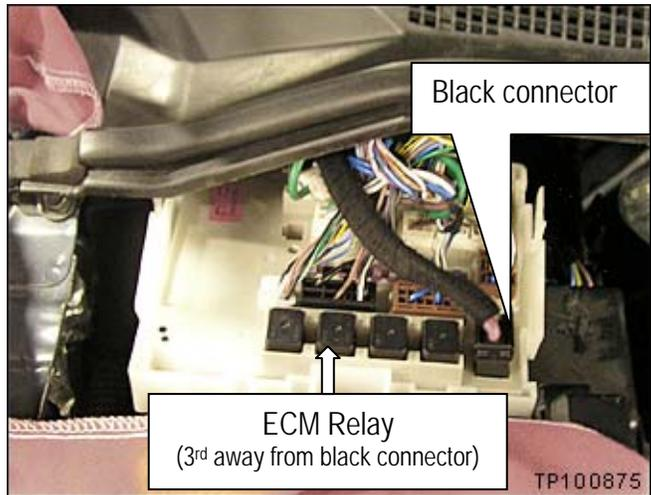

Figure 3
7. Position the IPDM as shown in Figure 3.
8. Locate the ECM relay (see Figure 3).